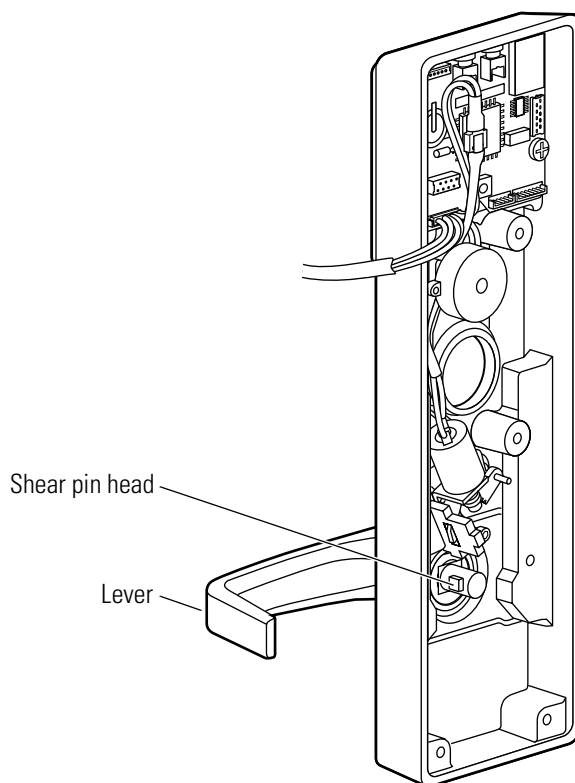

Figure 10.17 Changing the handing
2. Make sure that the shear pin is positioned in the lever so that the head faces the opposite direction of the lever handle. Then insert the lever through the escutcheon, positioning the lever so its handle will point toward the door hinges. See Figure 10.17.